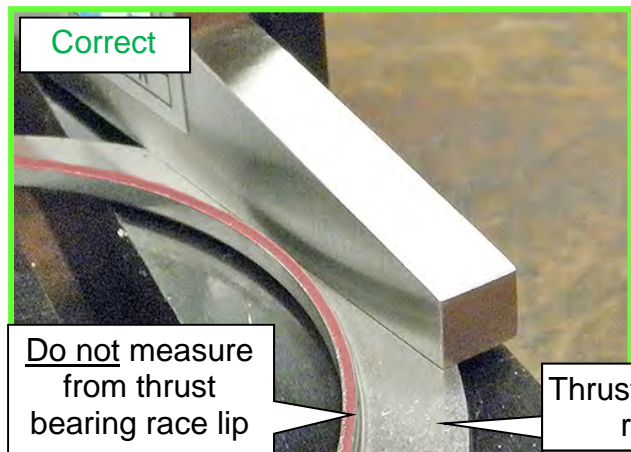

Figure 150
- c. Measure and confirm that the selected thrust bearing race is the correct thickness before installing (Figure 150).